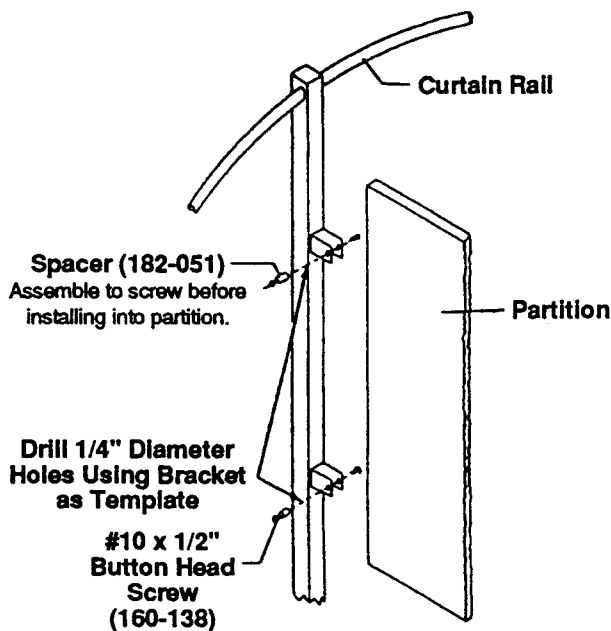

Figure 11
4. Secure posts to partitions with the #10 x 1/2" button head screws and spacers provided (see Figure 11).